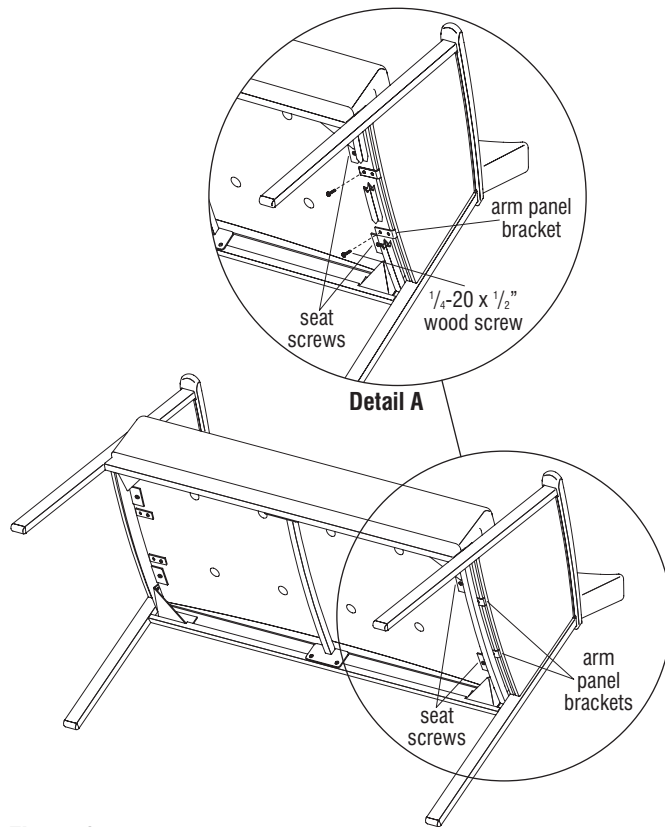

Figure 1
1. To remove the arm panel, first place the seating unit onto it's back on a soft, protective surface to expose the bottom of the chair. Locate the seat and arm panel screws (Figure 1).
2. Using a Phillips screwdriver, loosen the front and back screws which hold the seat bottom to the frame. Twist the screws counter-clockwise, only two full rotations. Next, remove the two 1/4-20 x 1/2" wood screws securing the arm panel brackets to the bottom of the chair (Figure 1).